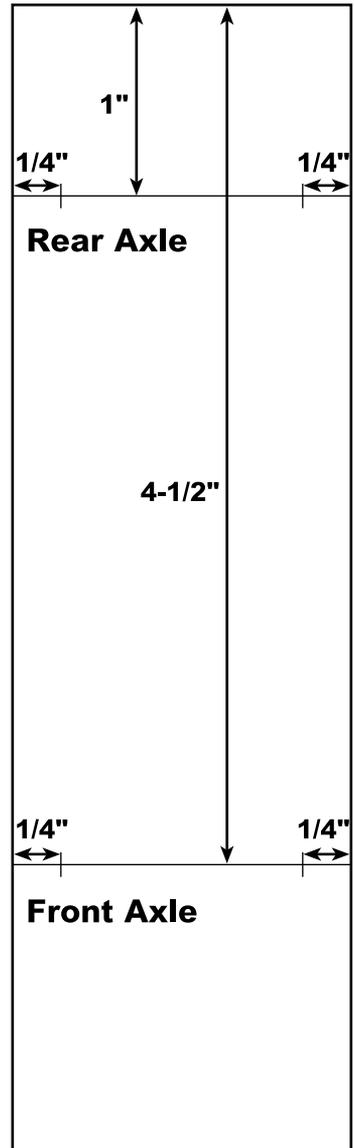

Figure 1
2. Measure 1" from one of the ends of the chassis board. At that measurement, make a mark on both sides of the chassis board. Using the ruler, draw a straight line across the board that lines up with the two marks (Figure 1). This is where the rear axle will go.
3. From the same end, measure 4-1/2" back and make a mark on both sides of the chassis board. Again, use the ruler to draw a straight line across the board that lines up with the two marks (Figure 1). This is where the front axle will go.
4. From both ends of each axle line, measure 1/4" and make a mark intersecting with the axle line (Figure 1). These four marks will be where the screw eyes are placed.